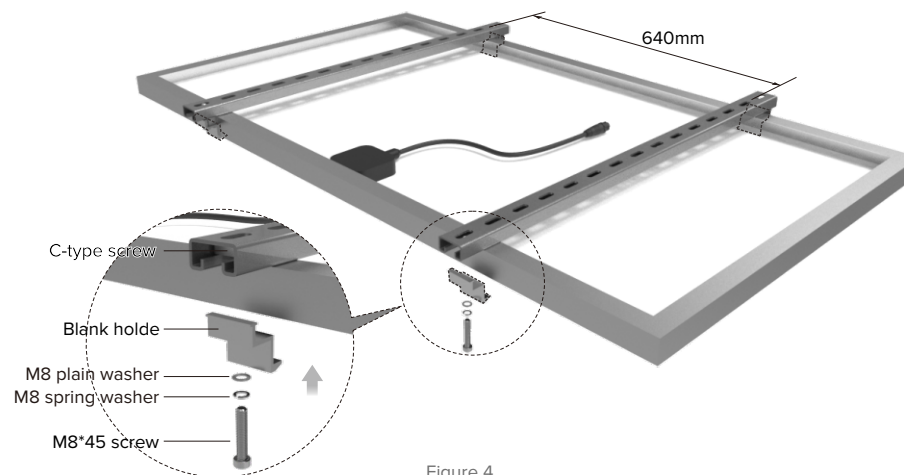

Figure 4
- 2 Using 4pcs blank-holders, M8\*40 screw, M8 spring washer, M8 plain washer, C-type screw nut to fasten the solar panel frame by the two cross-bars, adjusting the two cross-bars center distance to 640mm and mediate the solar panel. as shown in figure 4.